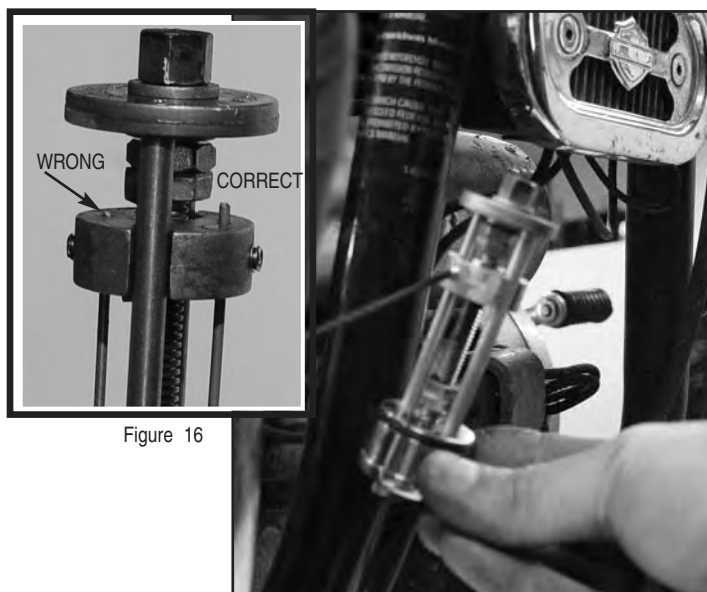

Figure 16
When correctly installed there will be proper inner Wire to Cable Sheath geometry and the Wire ends will be through the Position Nut as shown in Figure 16.
4. Before tightening Set Screws (c) it may be necessary to pull gently on wire of cable so Wire is exposed slightly. **Figure 16**
5. Tighten Set Screws (c). (**5/64" Allen Wrench**) **Figure 16**